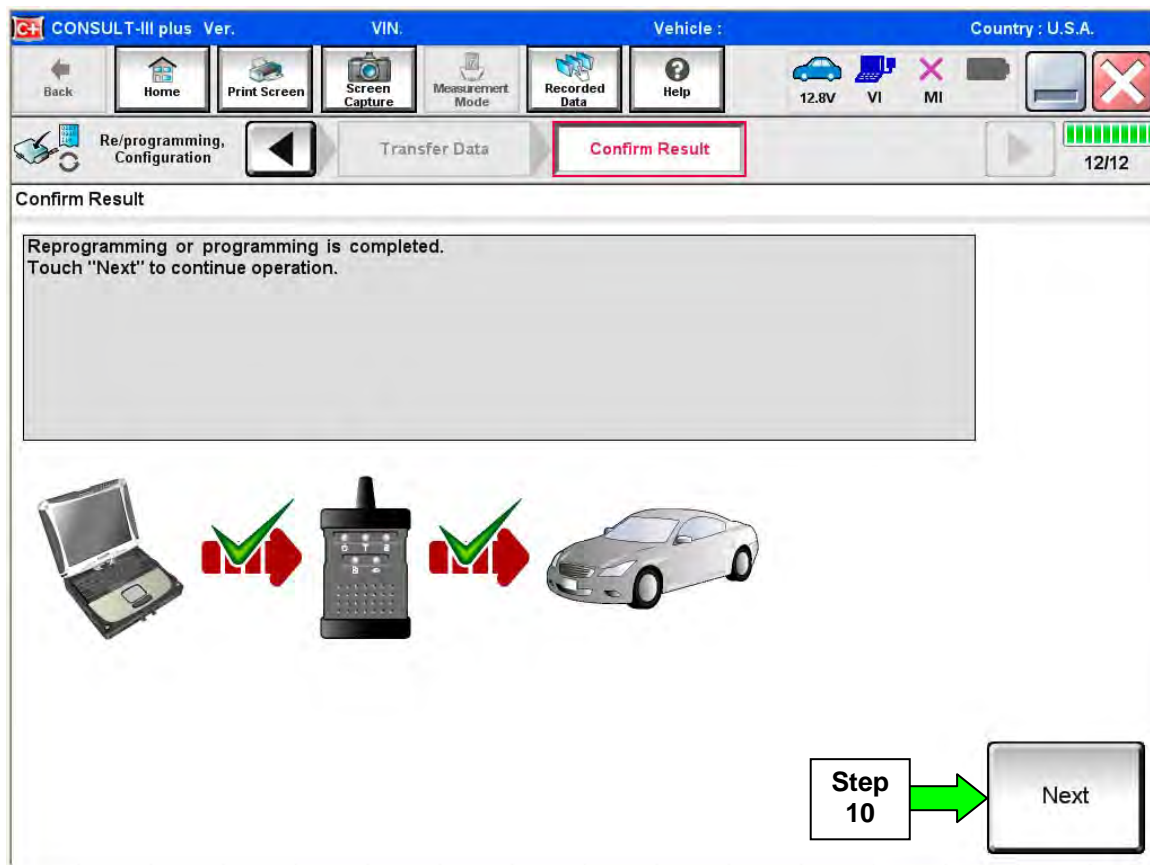

Figure 4
8. When the screen in Figure 4 displays, reprogramming is complete.
**NOTE:** If the screen in Figure 4 does not display (reprogramming does not complete), refer to the information on page 7.